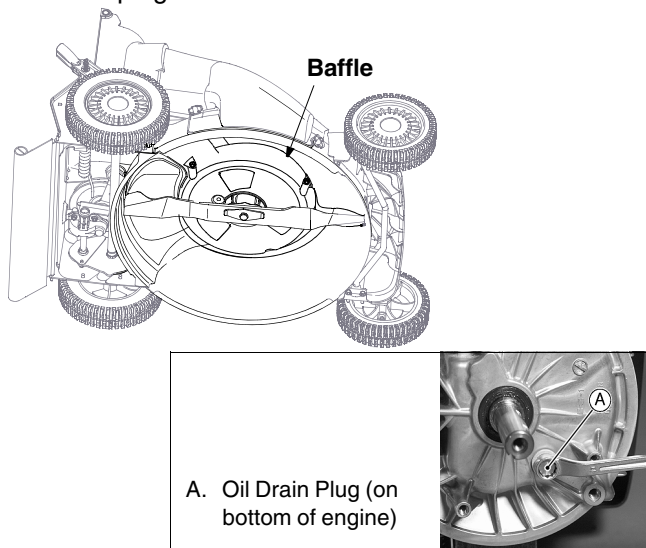

Figure 12
- Run the engine for a few minutes and stop the engine. Tip the mower as shown in Figure 12.
- Access the oil drain plug by removing the baffle and other components following instructions in “Changing Belts” section on page 14. See Figure 12 for location of the baffle.
- Remove the oil drain plug from bottom of the engine. See Figure 12 inset for location of the oil drain plug. Drain oil into suitable container.